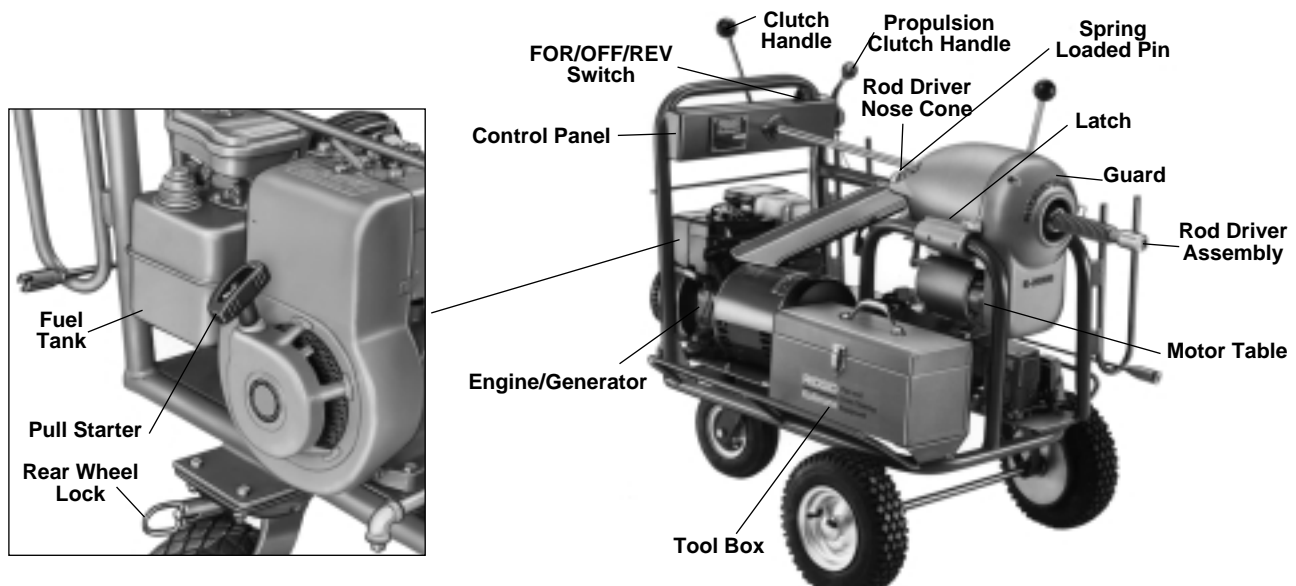

Figure 6 – K-2000 Machine with Rod Driver Assembly and Clutch Handle in Remote Control Housing
1. Release two latches (*Figure 6*) and remove guard on front of machine.
7. Install **rod driver assembly** (*Figure 6*) through body and engage in nose cone. Be sure spring-loaded pin is engaged in nose cone.
3. Move **FOR/OFF/REV SWITCH** (*Figure 6*) on control panel to **FOR** position.
4. Drive machine forward by rotating **propulsion clutch handle** (*Figure 6*) forward to horizontal position.